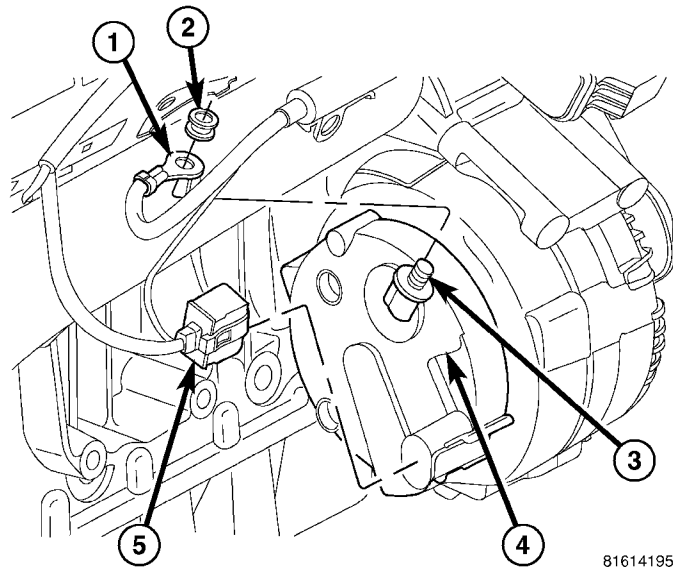

Fig. 1 ALTERNATOR CONNECTORS - DIESEL
1. Disconnect the field wire connector at the alternator (Fig. 1).